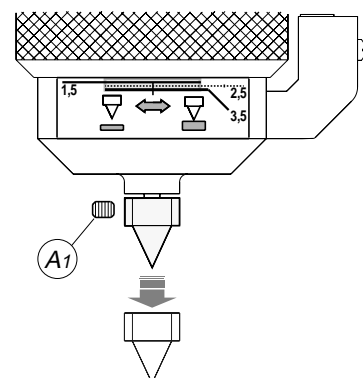

Fig. 31
- 2) remove the grub screw (A1) (fig. 31).